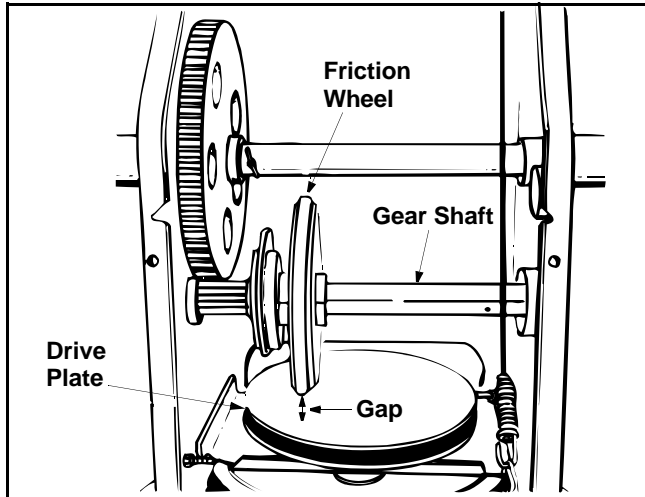

Figure 20
- With the traction control is engaged, the friction wheel must contact the drive plate. See Figure 20.